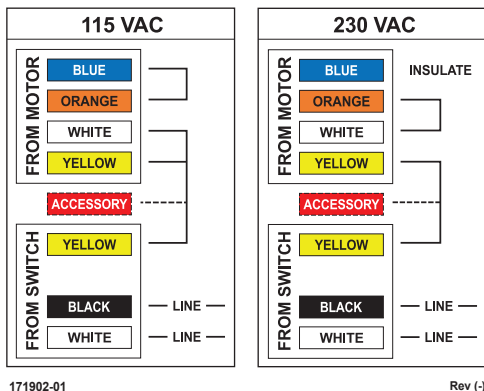

Figure 7a
3. Match voltage, connect motor to power supply phases. (see Figures 7a/7b)
4. Position wires inside the junction box and replace electrical cover. Install all four (4) screws.